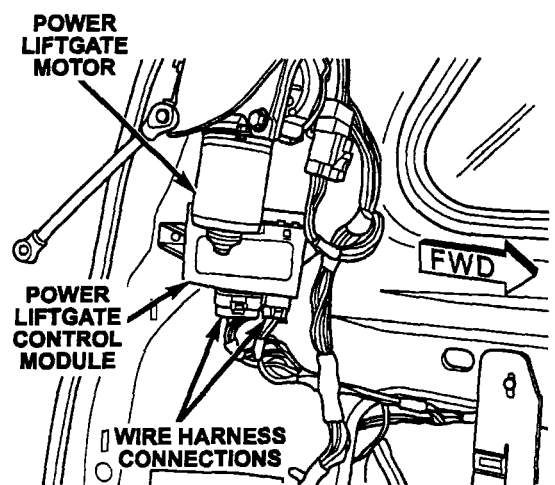

Figure 3
8. Disconnect the wire harness connections from the power liftgate control module (Figure 3).